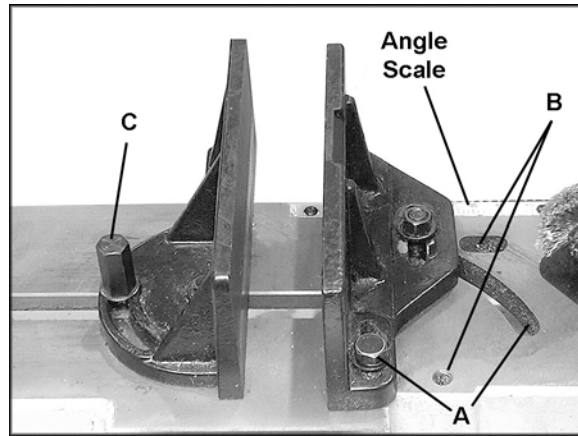

Figure 10
There are two sets of holes in the bed to mount the right jaw. The inner hole and slot (A, Figure 10) are used for miter cuts. The outer hole and slot (B, Figure 10) are used for square, or 90° cuts. Figure 10 shows the vise located in the “A” position for miter cuts.
1. To set up for square cutting, move the right jaw to “B” position (Figure 10). Place a machinist’s square on the bed against the blade and the right vise jaw. The square should lie along the entire length of the jaw and blade without a gap.
4. Loosen the handle (C, Figure 10) on the left jaw. Move the left jaw until it contacts flush with the right jaw.
5. Tighten the handle (C, Figure 10). The vise is now set for square cuts.
1. For miter cuts, move the fixed jaw to the inner holes, or “A” position, as shown in Figure 10.
3. Adjust the movable jaw in the manner described above, and tighten the handle (C, Figure 10).